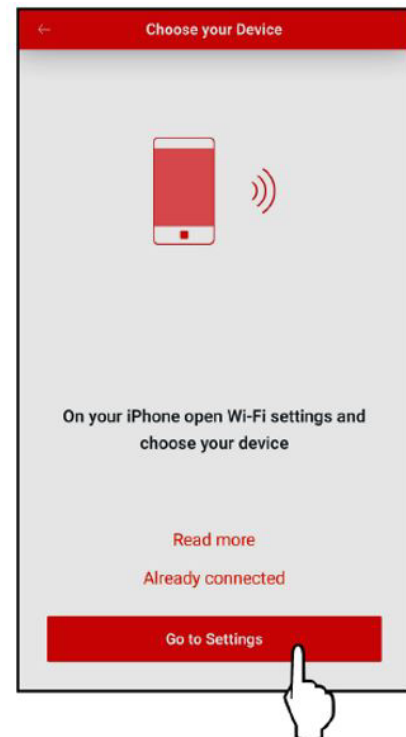

Figure 91. Go to Settings
4. Press the "Go to Settings" button on the "Choose your Device" screen. See **Figure 91**.